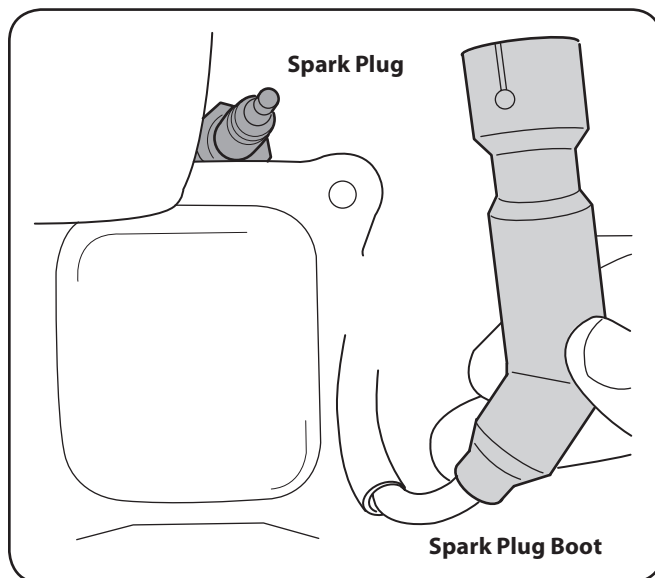

Figure 7-3
1. Remove the spark plug boot and use a spark plug wrench to remove the plug, Figure 7-3.